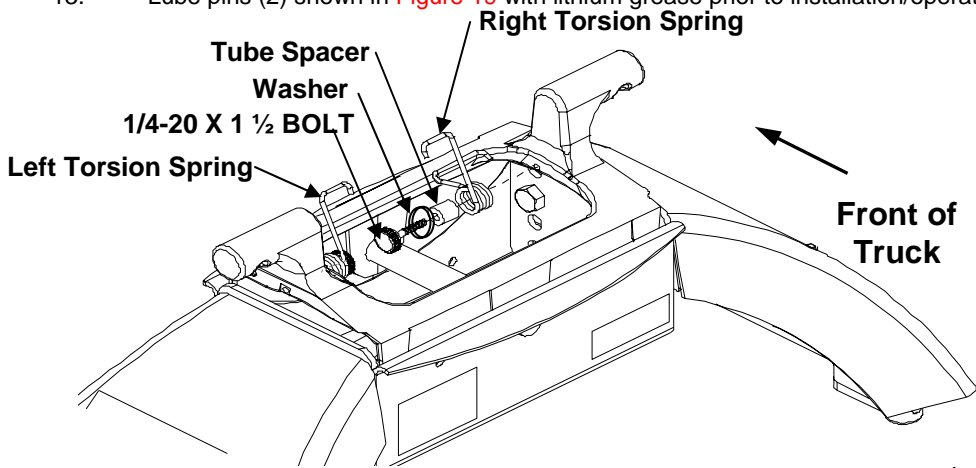

Figure 17: Torsion Spring Assembly
11. Left hand and Right hand torsion springs need to be added to center section so that the coil is facing the rear of the truck and wide hook sits over casting as shown in **Figure 17**. Hand tighten 1/4-20 X 1 1/2 BOLT with 7/16 socket to 8 ft-lbs.